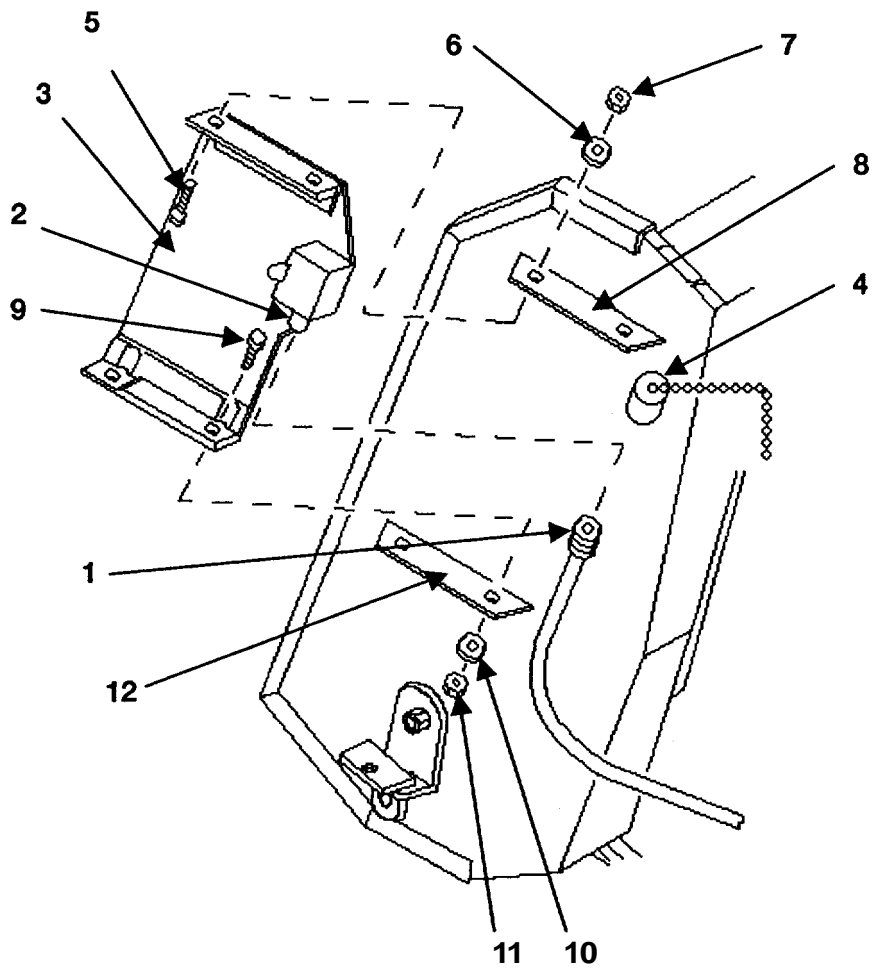

Figure 1
All callout references in steps (3) through (7) refer to Figure 1, page 6.
- (3) Disconnect connector (1) P373 (pilot) or P259 (CPG) from connector (2) (A148)J1 or (A147)J1 (CPG) on slider plate (3).
- (4) Screw electrical connector cover (4) onto connector P373/P259.
- (5) Remove and discard two screws (5), two washers (6) and two nuts (7) from upper bracket (8).
- (6) Remove and discard two screws (9), two washers (10) and two nuts (11) from lower bracket (12).
- (7) Remove M43 Mask Blower slider plate (3) from brackets.